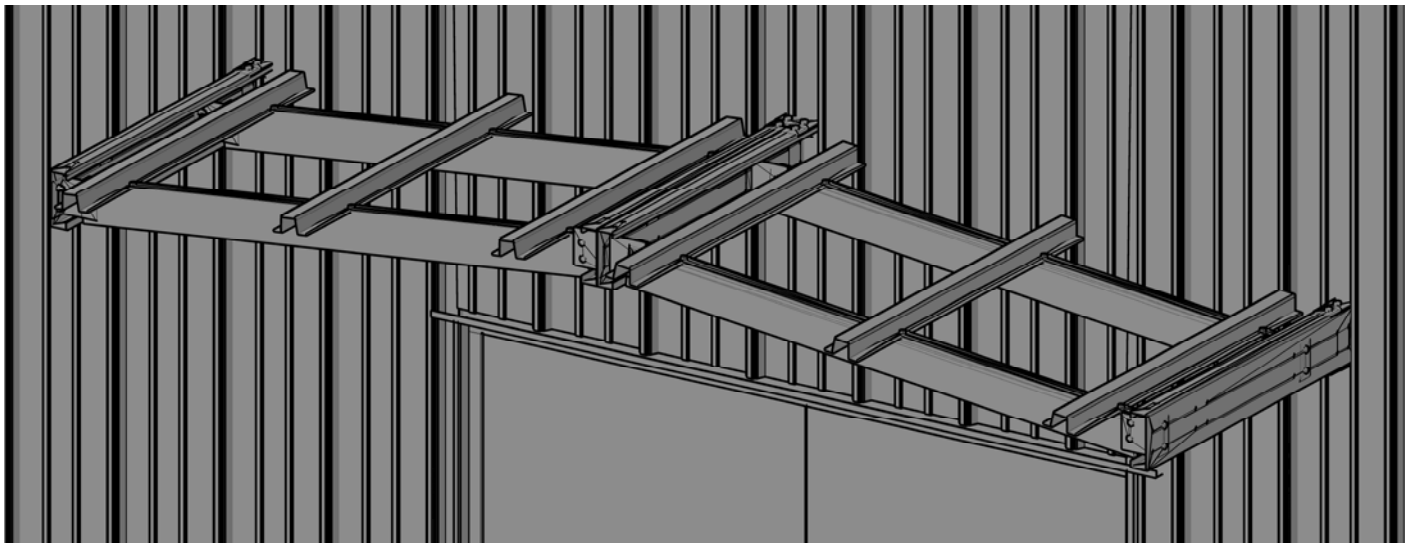

FIGURE 10
- a. **Gable Channels** - Attach (4) gable channels(S-004-GV) as shown in **Figure 10**. Attach to Horizontal Channels using (2) Connection Clips (SC-015-GV) and $\frac{1}{4}$ " bolt/nuts. **Note holes for purlin attachment must be on top of Gable Channels.**
- b. **Hat Purlins** - Attach (6) Hat Purlins (S-005-GV) to the Gable Channels using $\frac{1}{4}$ " bolts/nuts. If necessary, use a channel lock pliers to squeeze the Hat Purlins to allow the holes to line up. See **Figure 10** for a completed FLS frame. Purlins are not punched symmetrically, shorter cantilever toward wall.